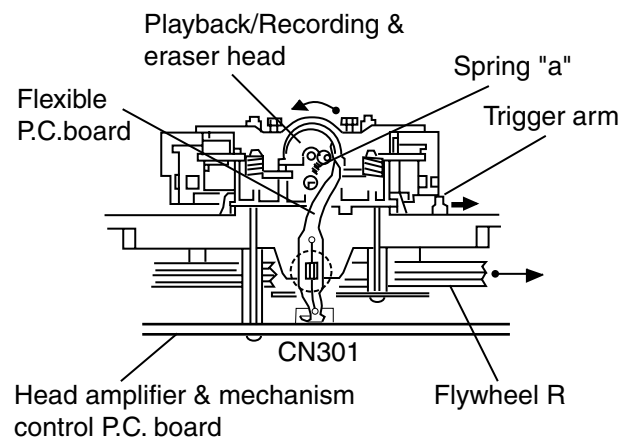
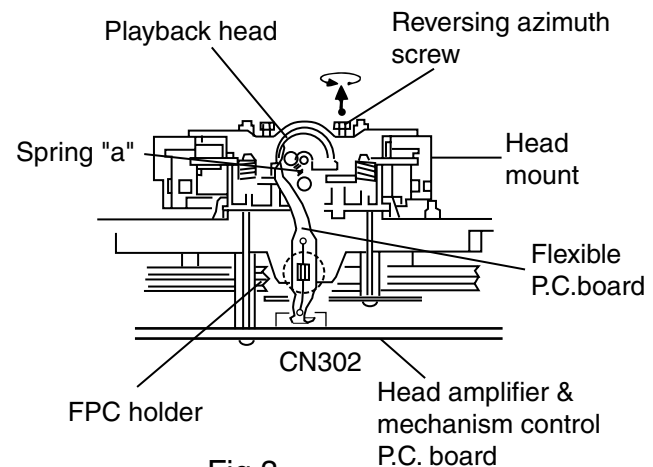

Fig.2 (Mechanism A side)
Fig.3 (Mechanism B side)
2. When the flywheel R is rotated in counterclockwise direction, the playback / recording & eraser head will be turned in counterclockwise direction from the position in Fig.2 to that in Fig.3.
● Reassembling the playback, recording and eraser heads (See Fig.3)
1. Reassemble the playback head from the front of the head mount to the position as shown in Fig.3.
4. Attach the flexible P.C.board to the chassis base as shown in Fig.3.